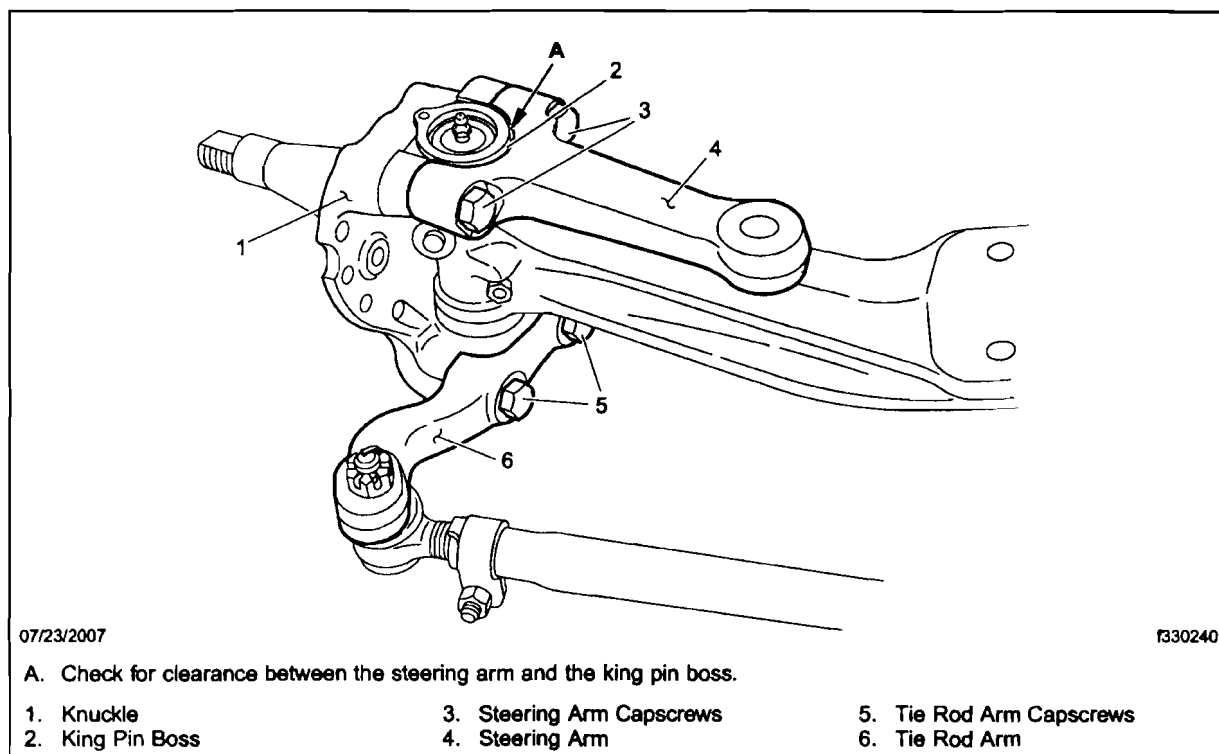

Fig. 1, Steering Arm and Tie Rod Arm
3. Using a 0.004 inch (0.1 mm) feeler gauge, check the clearance between the steering arm and the king pin boss. See Fig. 1.
1. Remove one of the capscrews that attaches the steering arm to the steering knuckle. See Fig. 1.
1. Remove one of the capscrews that attaches the tie rod arm to the knuckle. See Fig. 1.